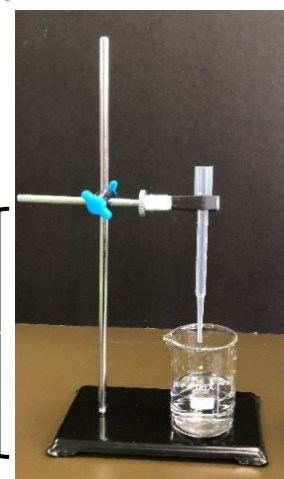

Figure 1
- Assemble the set up shown in *Figure 1*.